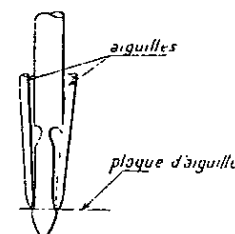

Fig. 24
2. At the closed position, they should come into the two grooves of the Puncher, without touching it. (Fig 24) in order to obtain this adjustments, it is advisable to proceed in the following manner :
In order to obtain this positioning, loosen Locking Nuts 238 & 239 (Fig 15), situated behind parts 234 & 235. Re-tighten after adjustment. Continue to turn the wheel towards you, and bring the needles to their closed position. In this position make the first adjustment loosen screws 230 and move rod 231 sideways, to bring the needles to the two grooves of the Puncher as near as possible avoiding any contact with the moving parts. (Fig 24) Check that the screw 230 is well tightened after the adjustment.